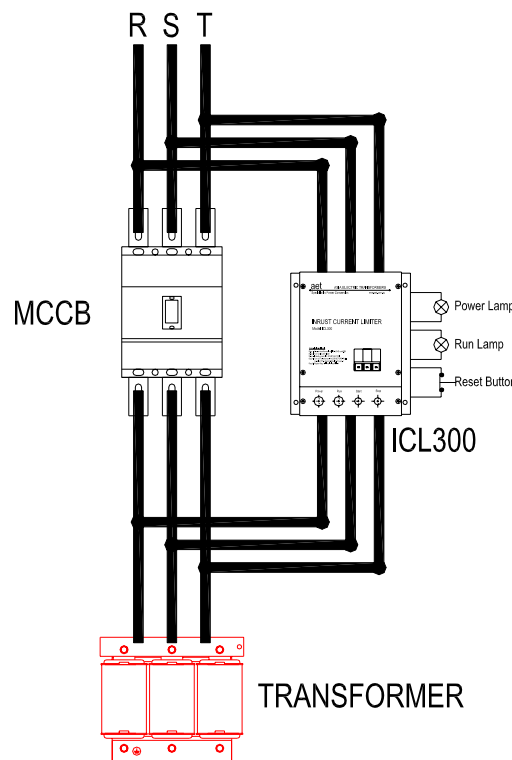

Figure 1.
- Setp 1 : Ensure ICL300 is properly connected as shown in Figure 1.